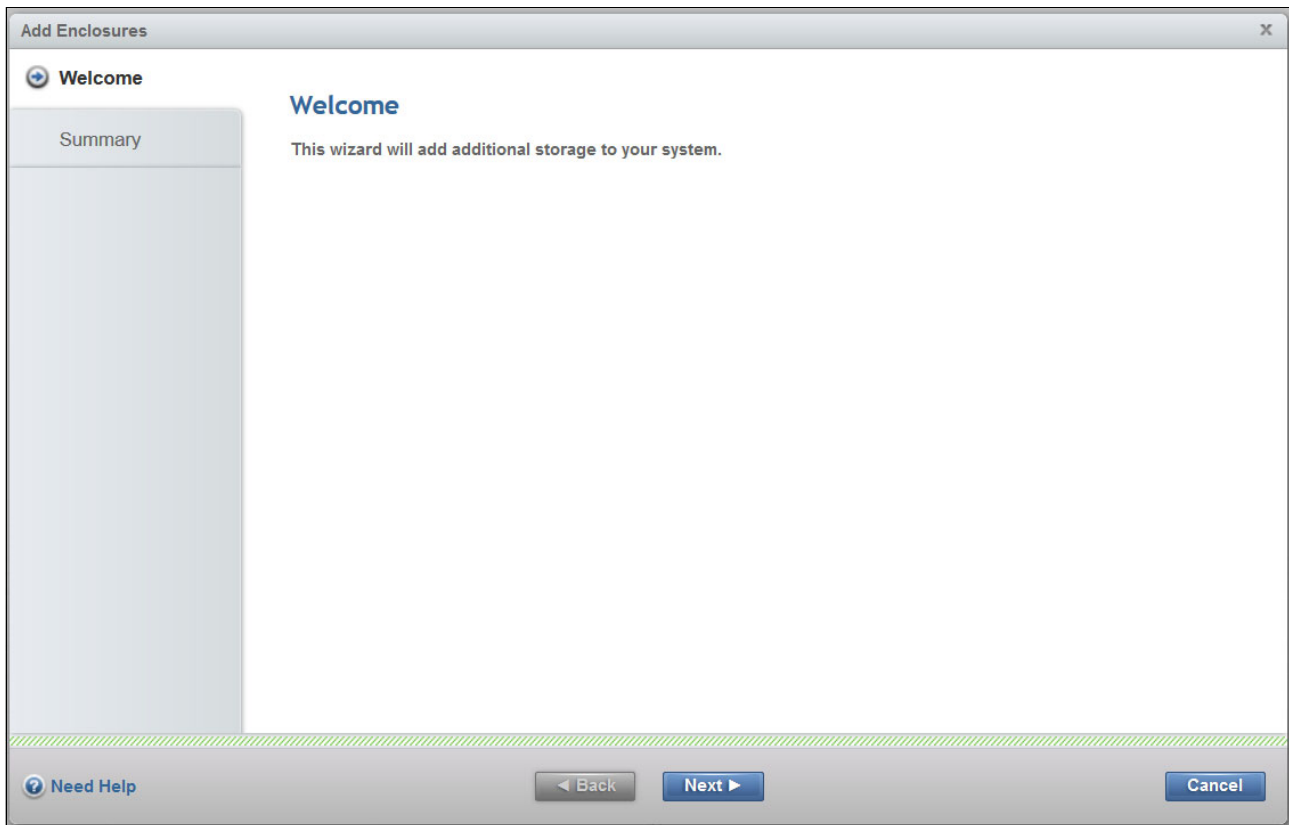

Figure 6-24 Add AE2 storage enclosure wizard Welcome panel
2. The Welcome panel opens (Figure 6-24). Click **Next** to start to add the AE2 storage enclosure.